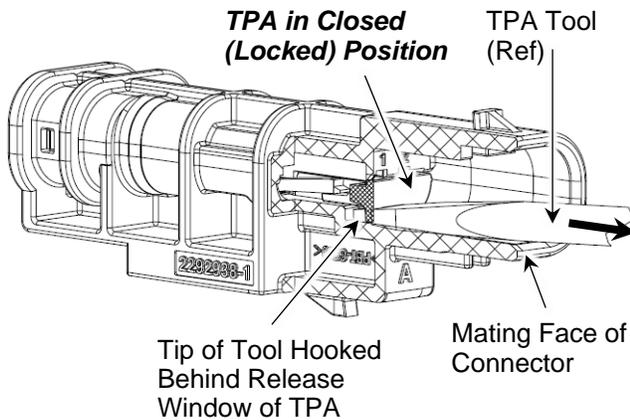

Figure 2
3. Make sure that the TPA is in the open (unlocked) position as shown in Figure 2, Detail A. If it is not, open the TPA as follows:
- a. Insert the tip of TE Removal Tool 776441-1 (or similar hook tool) into the mating face of the connector, and hook it behind the release window of the TPA. See Figure 2, Detail B.